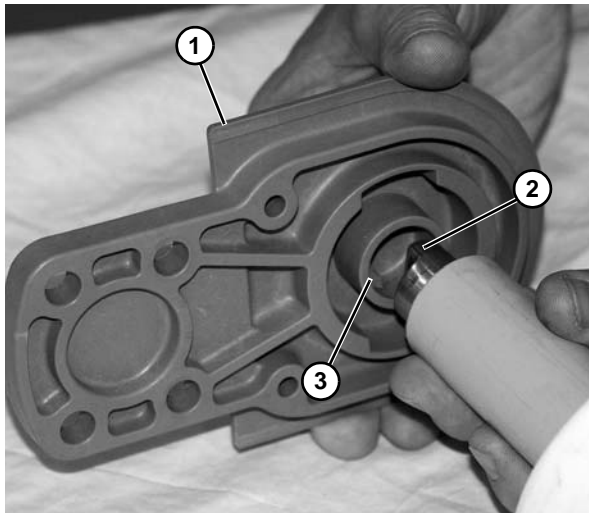

Figure 54
4. Remove the headplate (**Figure 54, item 1**) from spindle. Repeat on opposite side.
Make note of the notch (**Figure 54, item 2**) on the spindle where it seats into notched area (**Figure 54, item 3**) in headplate.